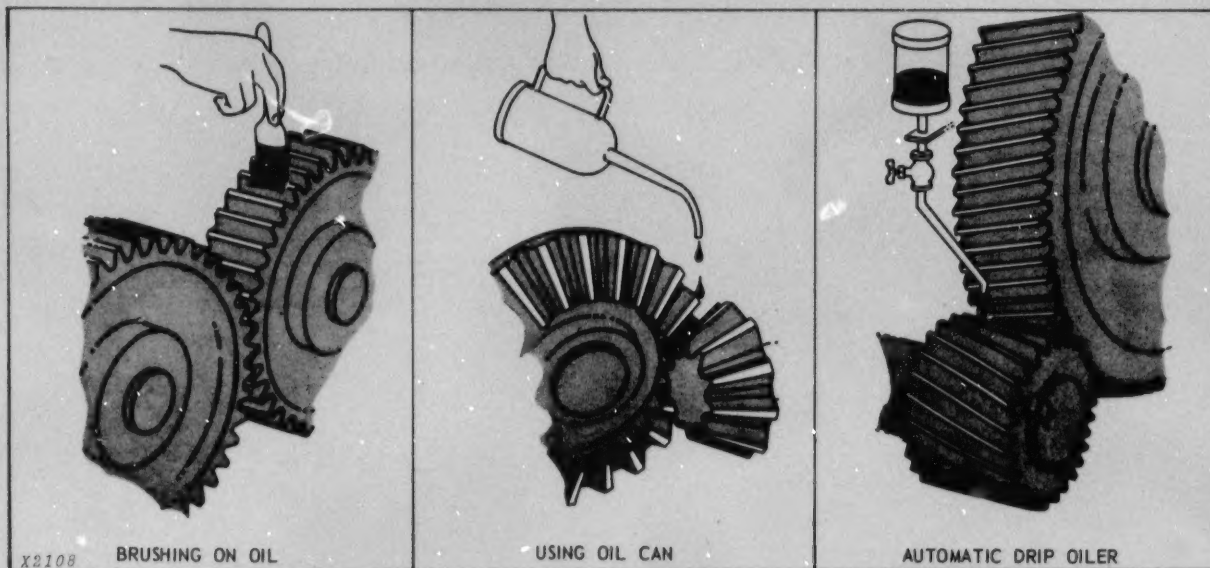

Fig. 27—Lubricating Of Open Gears—Three Ways
- 2) Hand lubrication by brushing or squirting (Fig. 27).